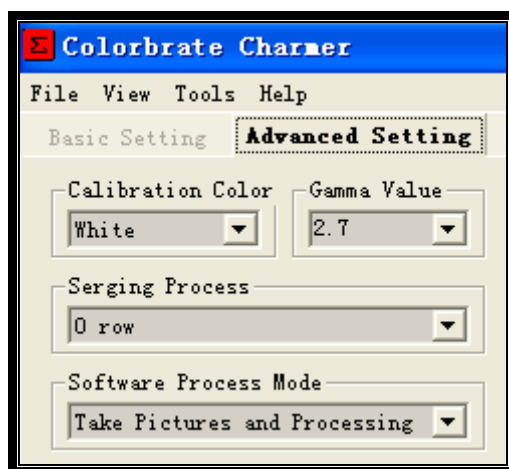

Fig.3-26
Step25: Click the “Advance Setting” page mark, as shown in fig.3-26.